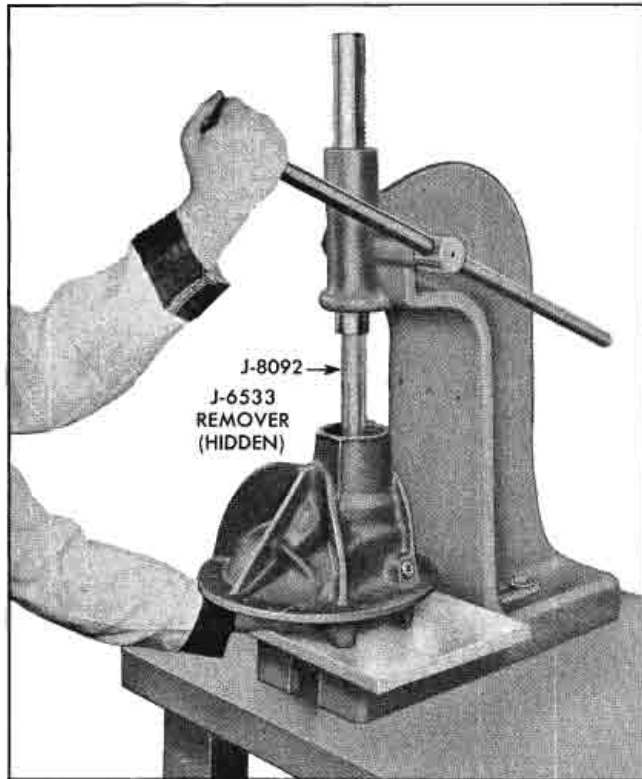

Fig. 4-42 Removing Rear Bearing Outer Race with J-6533 and J-8092
28. If, during visual inspection, it was determined to replace rear pinion bearing, press rear bearing outer race from carrier, using remover J-6533 and drive handle J-8092 (Fig. 4-42).